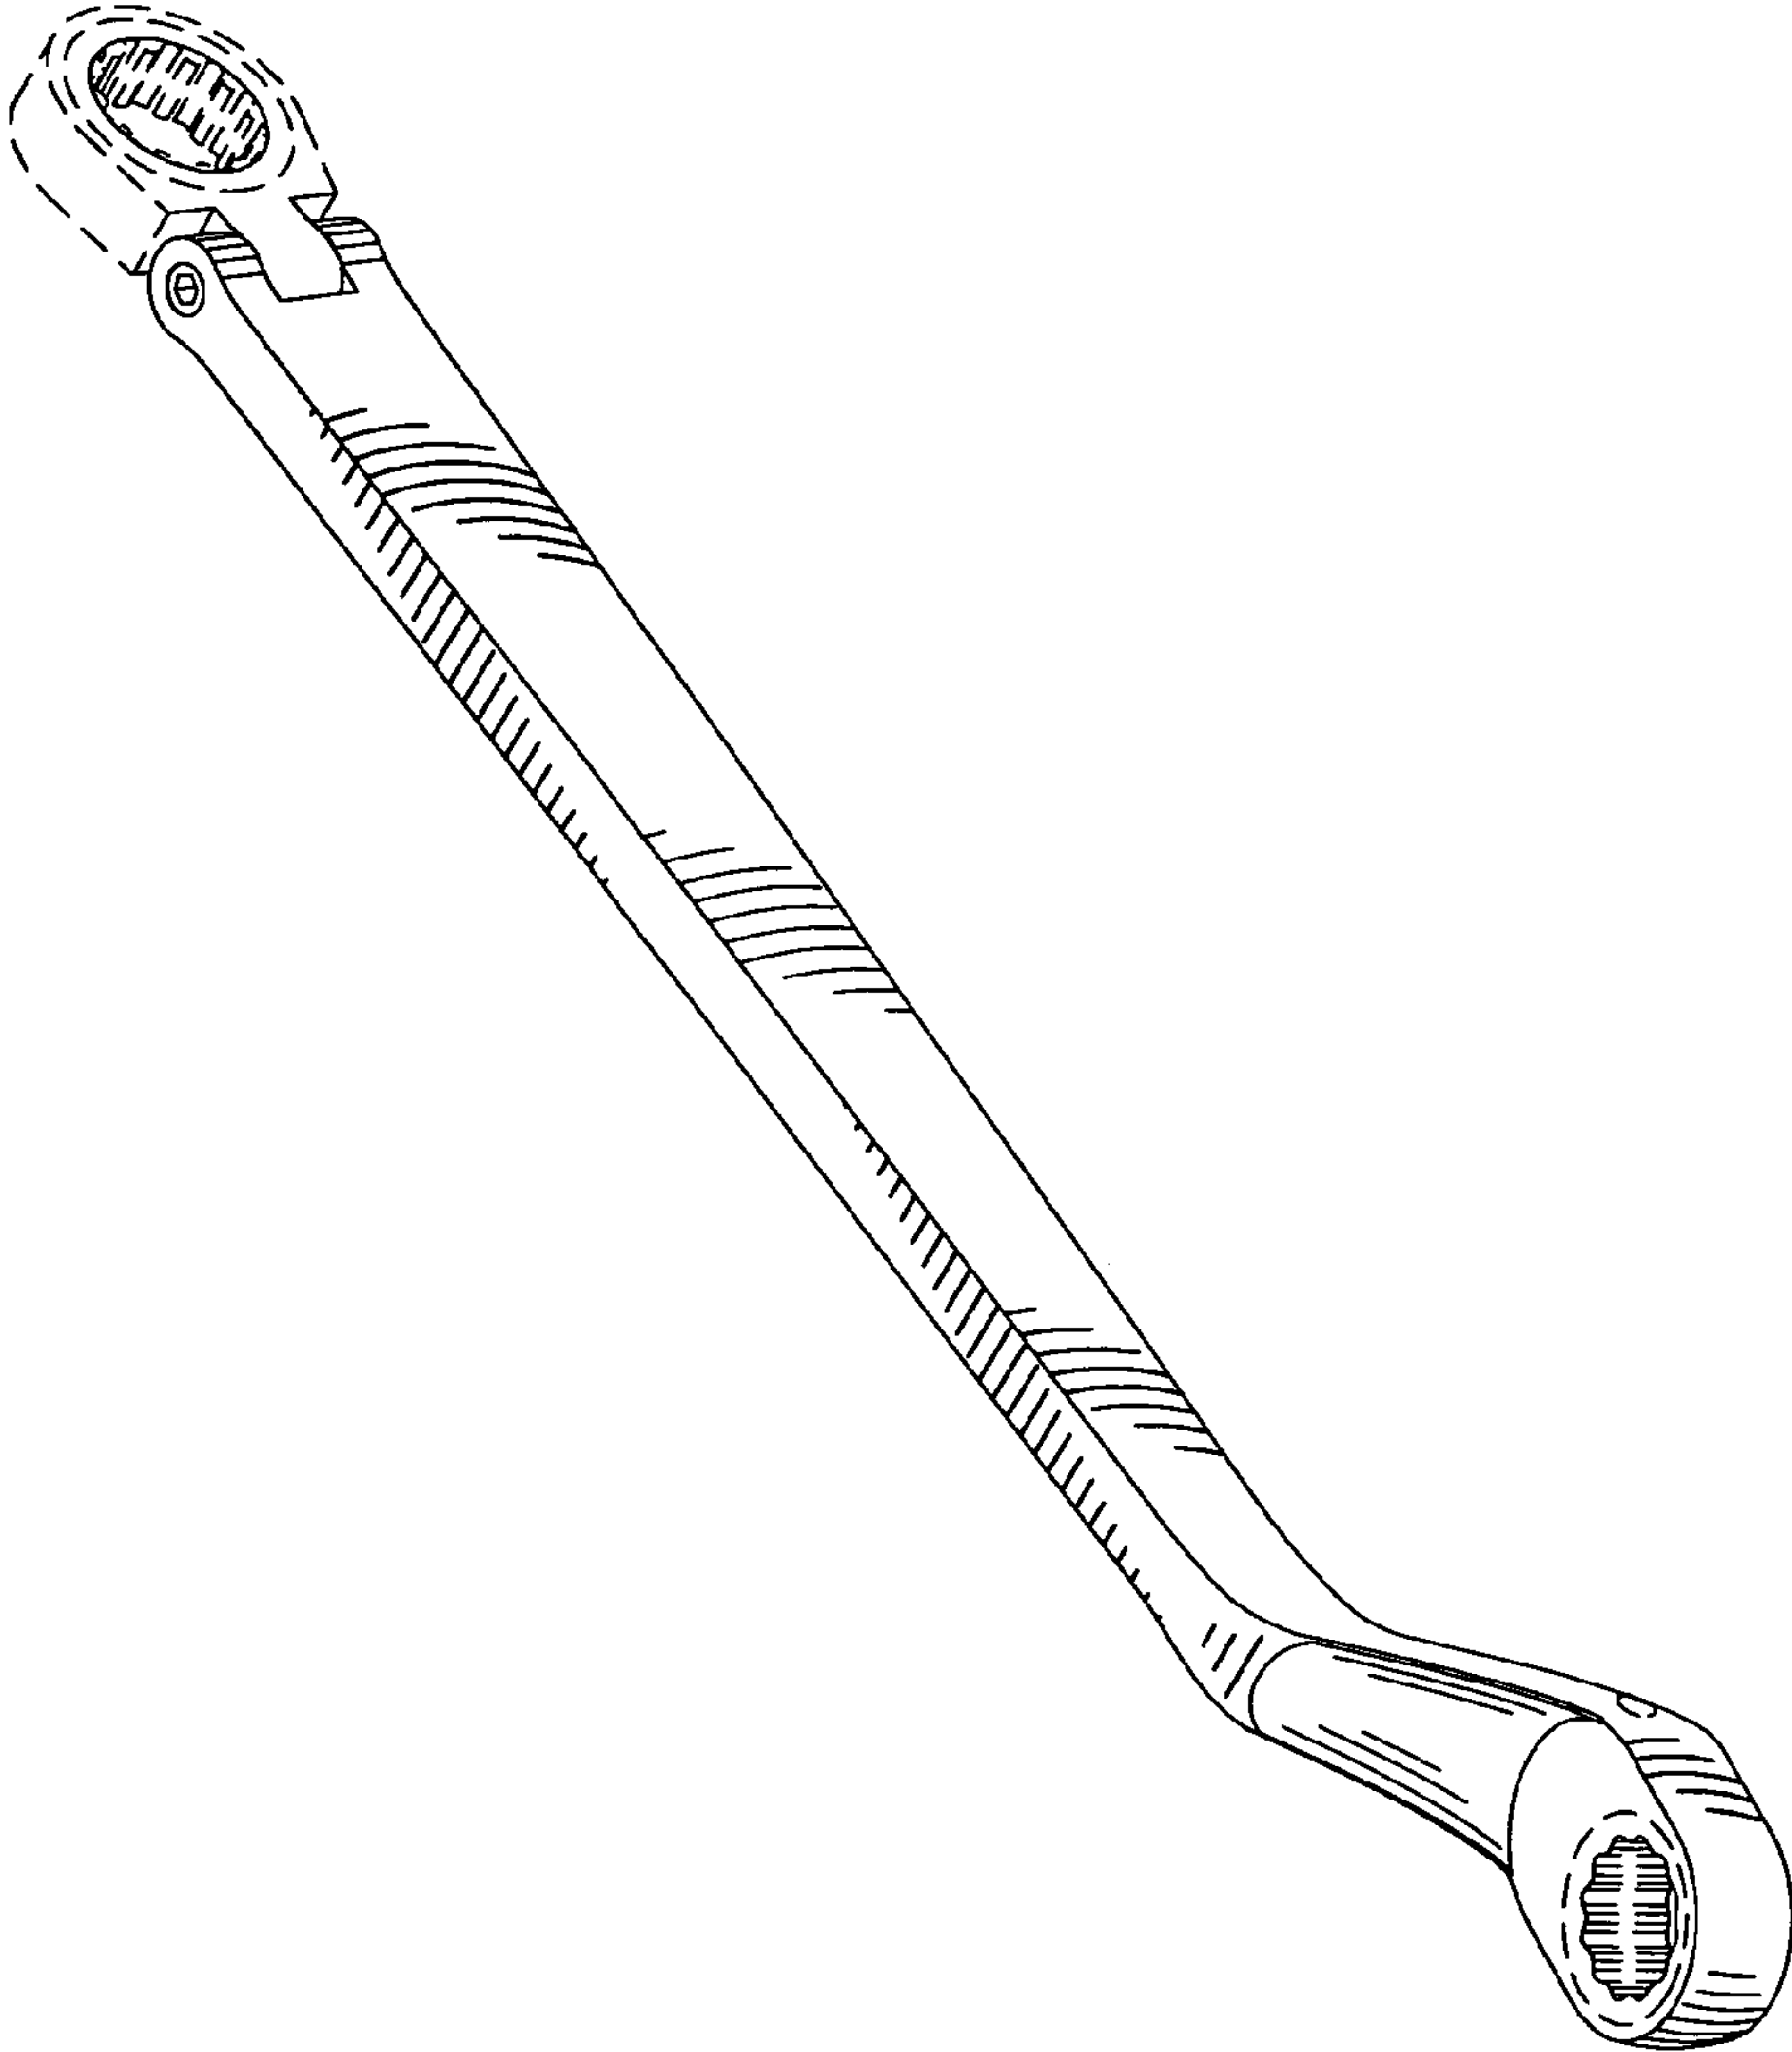

FIG 16
FIG. 16 is a perspective view (VI) of the spanner in a position of use.